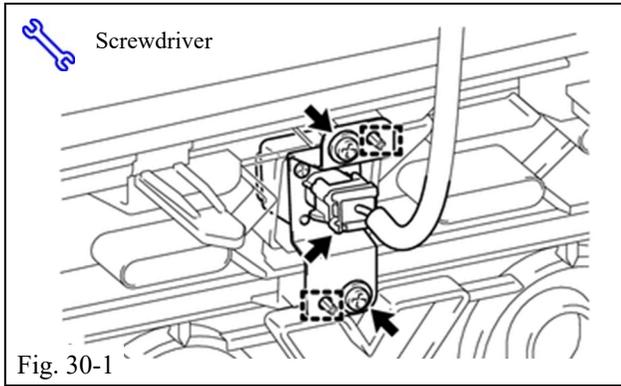

Fig. 30-1
30. Install Camera Bracket (or Connector Cap) Assembly. (Fig. 30-1)